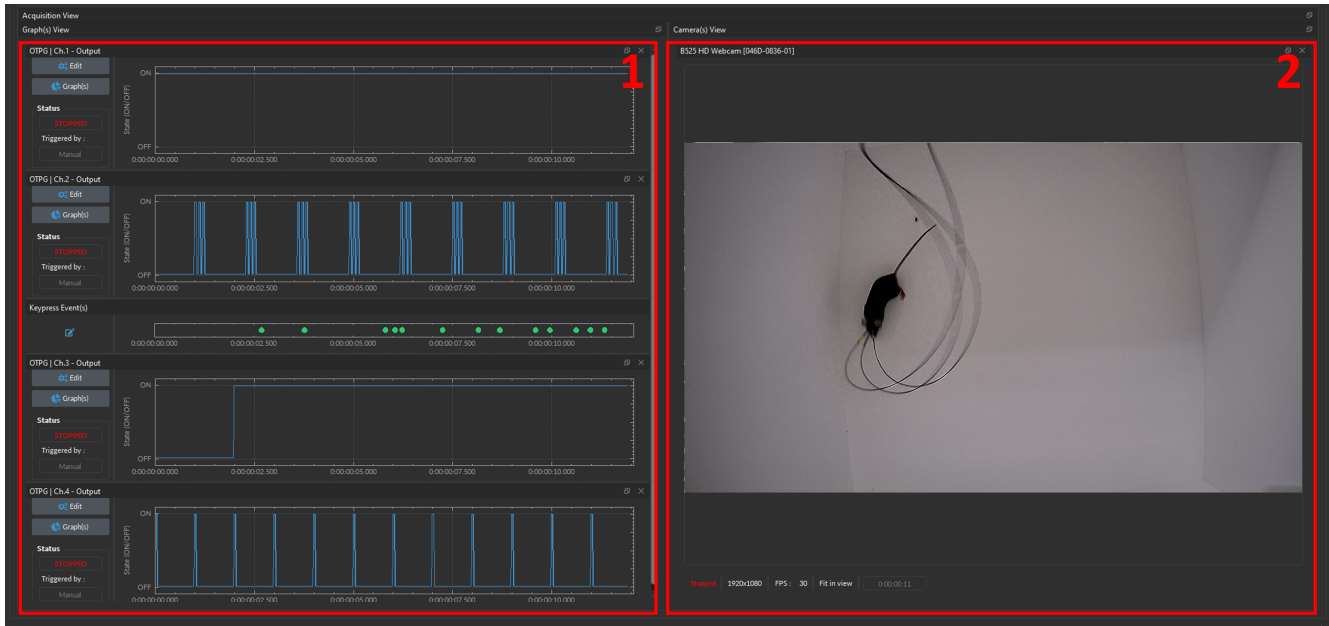

Figure 10.25: Acquisition View
The **Acquisition View** (Fig. 10.25) is split into two separate divisions (when **Camera Channel** is used), each of which visualizes different types of data in the following sections:
1. The **Graph View** (Fig. 10.25, 1) - Section 10.3.1;
2. The **Camera View** (Fig. 10.25, 2) - Section 10.3.2;